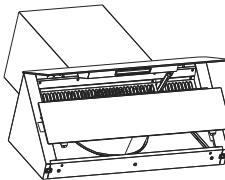

Fig.10
- Remove the screws that fix the lower glass panel, hold the lower glass panel with both hands and push it upwards to remove it.(Fig.10).